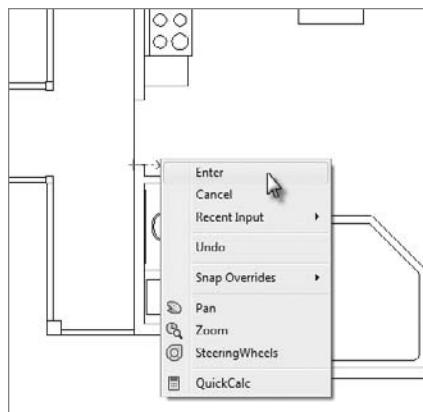

FIGURE 6.35 The right-click context menu for accessing recent and common commands
9. Right-click once to open a context menu near your cursor (see Figure 6.35).